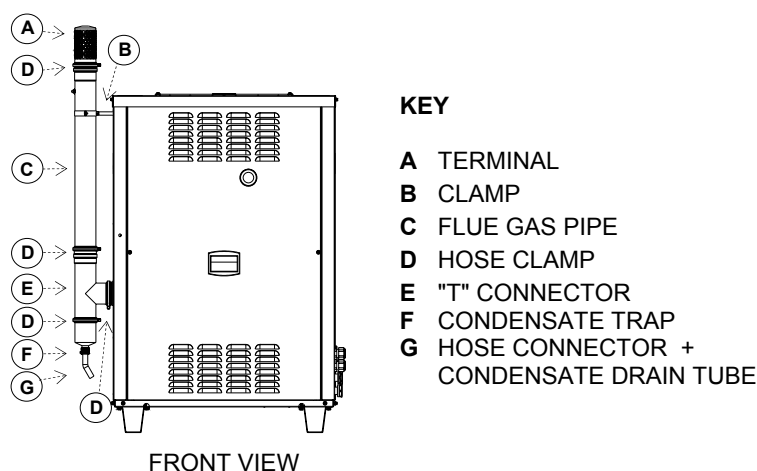

Figure 7 - Components of exhaust air duct kit
The maximum allowable pressure drop from the top of the chimney (Bottom of terminal fitting (A) shown in Figure 7) is 0.25 PSF (Pound Square Foot).